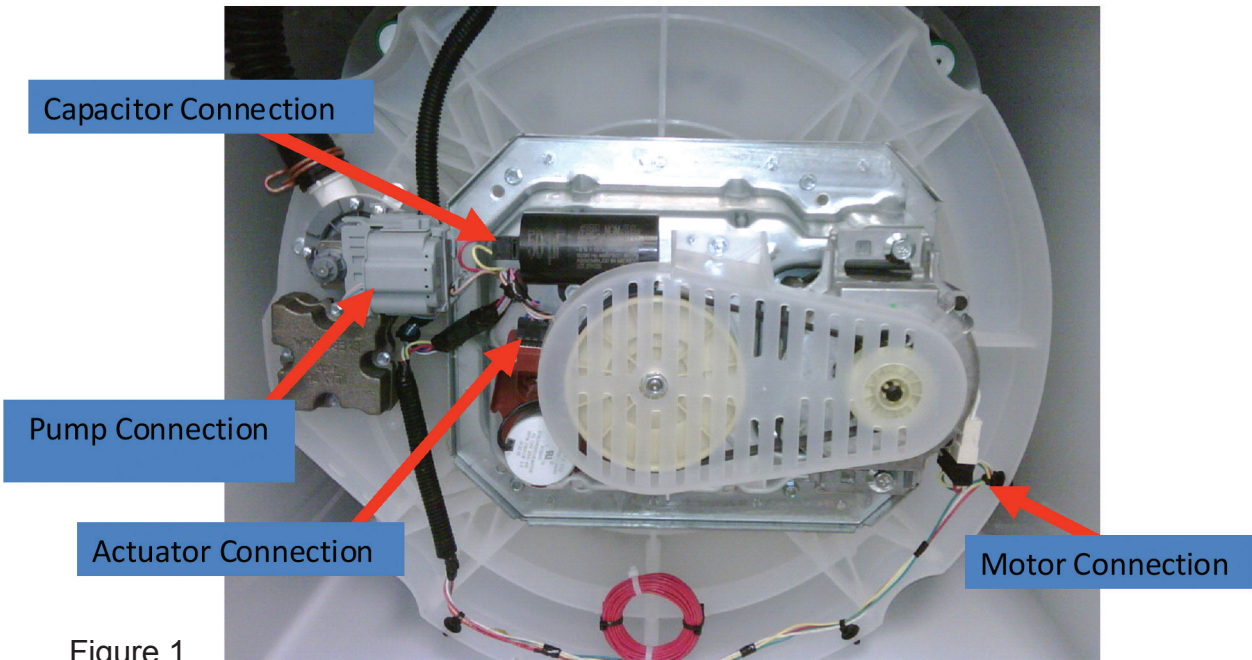

Figure 1
3. PRIOR to continuing with step 2, check electrical connections at the motor, capacitor and pump. Push connector all the way into the housing. (Figure 1, next page).